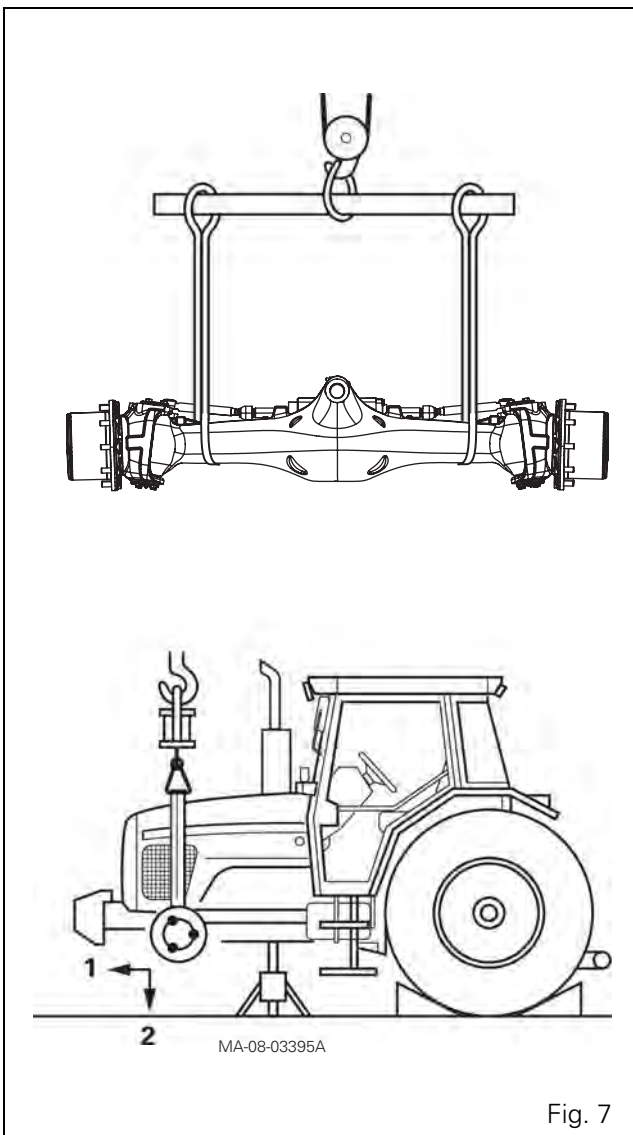

Fig. 7
26. Remove the 45 kg front weights (if fitted). Immobilise the tractor. Apply the hand brake. Place safety chocks on either side of the rear wheels as shown in Fig. 7.
31. Sling the front axle using suitable straps (Fig. 7).
33. Pull the front axle assembly complete with bearing support (15) forwards along the axis of the axle beam (Fig. 7) (position 1) and remove the front axle (position 2).
34. Note the features, order and position of the washers (13) (14) and the direction of the chamfers and remove them.
- the washers (13) (14)
- the friction rings (17) (18)
- the seal (16).
36. Slide the washers (13) (14) lightly smeared with bearing grease onto the front and rear ends of the pivot pin. Position the washers in the order noted during step 34.
37. Sling the front axle (Fig. 7). Moderately lubricate the ends of the pivot pin and fit the support (15) at the front of the pivot pin (Fig. 3).